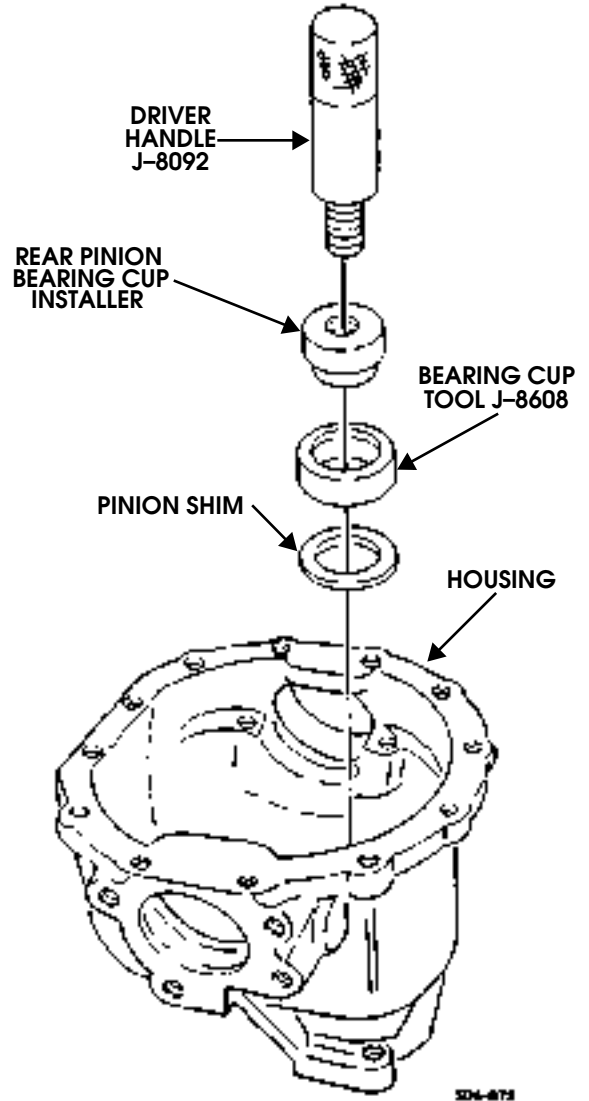

Figure 9-90: Pinion Rear Bearing Installation
23. Rotate housing 180 degrees. Lubricate outside diameter of pinion rear bearing cup with gear oil (Figure 9-90).